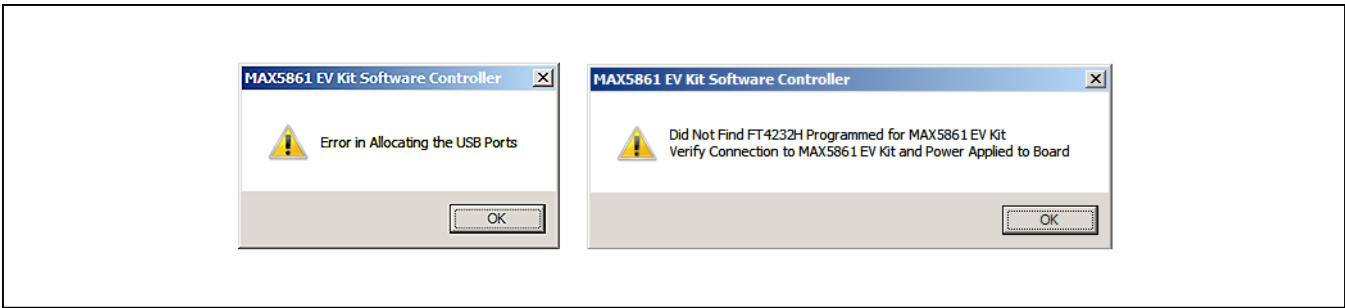

Figure 5. Error in Allocating USB Ports and Failed to Connect to MAX5861 EV Kit Windows
- The EVKIT USB ports can take a few minutes to fully enumerate. If the ports have not enumerated yet, the error window shown in Figure 5 will appear.
USB communication to the FTDI microcontroller’s SPI is verified upon execution of the MAX5861 EV kit Software Controller. If the USB is not connected or communicating to the interface correctly, a pop-up window appears (Figure 5).